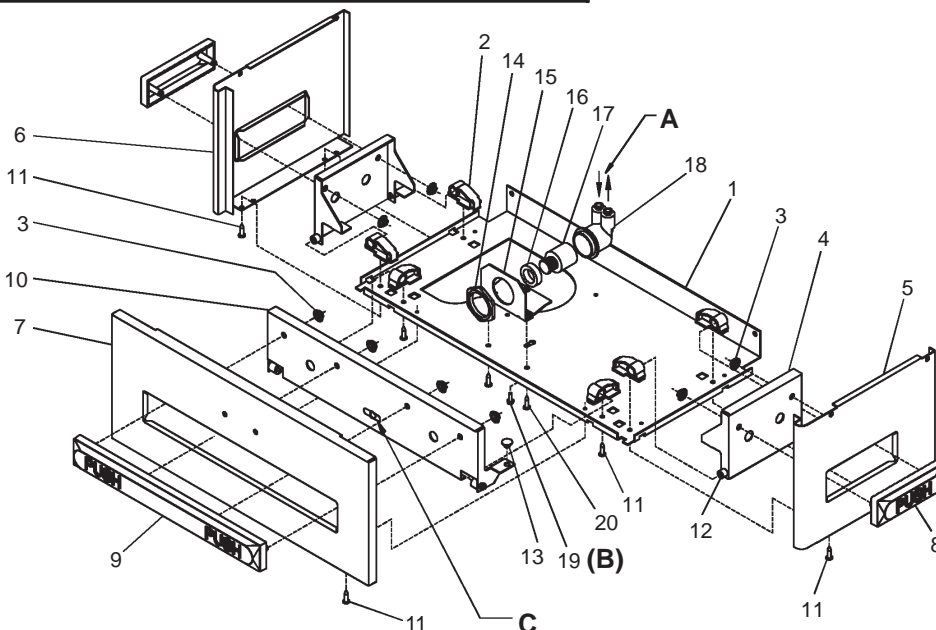

FIG.4
- 8) Stream height is factory set at 45-50 PSI. If supply pressure varies greatly from this, adjust screw, accessible by removing front push panel (Item 7, Fig. 4). CW adjustment will raise stream and CCW adjustment will lower stream. For best adjustment, stream should hit basin approximately 6-1/2" (165mm) from bubbler.
- 9) Replace the front panel and secure by re-tightening two (2) screws.